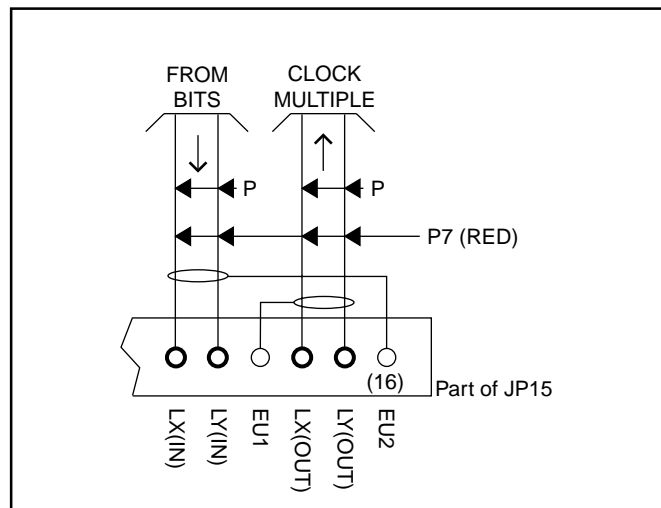

Figure 9. Office Timing Connections on JP15
The Office Timing input/output pins for the BR1/10 2X chassis are located on JP 15, pins 11-16. The incoming BITS connects to pins LX (IN) and LY (IN); EU2 is used to shield the two inputs. Figure 9 illustrates composite clock connections.